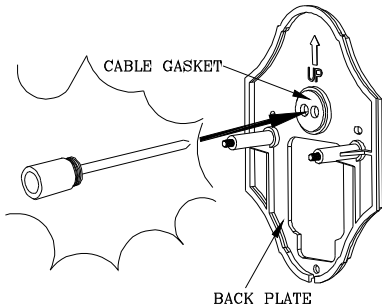

FIGURE 9
- (1) Switch off the power supply.
- (2) Unscrew the back plate from the front cover. There is a "UP" mark shown on the back plate. Be sure to have the "UP" mark shown pointing up when fixing the back plate onto the wall.
- (3) Use a screwdriver to break a small hole on the cable gasket, enabling the power cord to enter the back plate. (FIGURE 9)